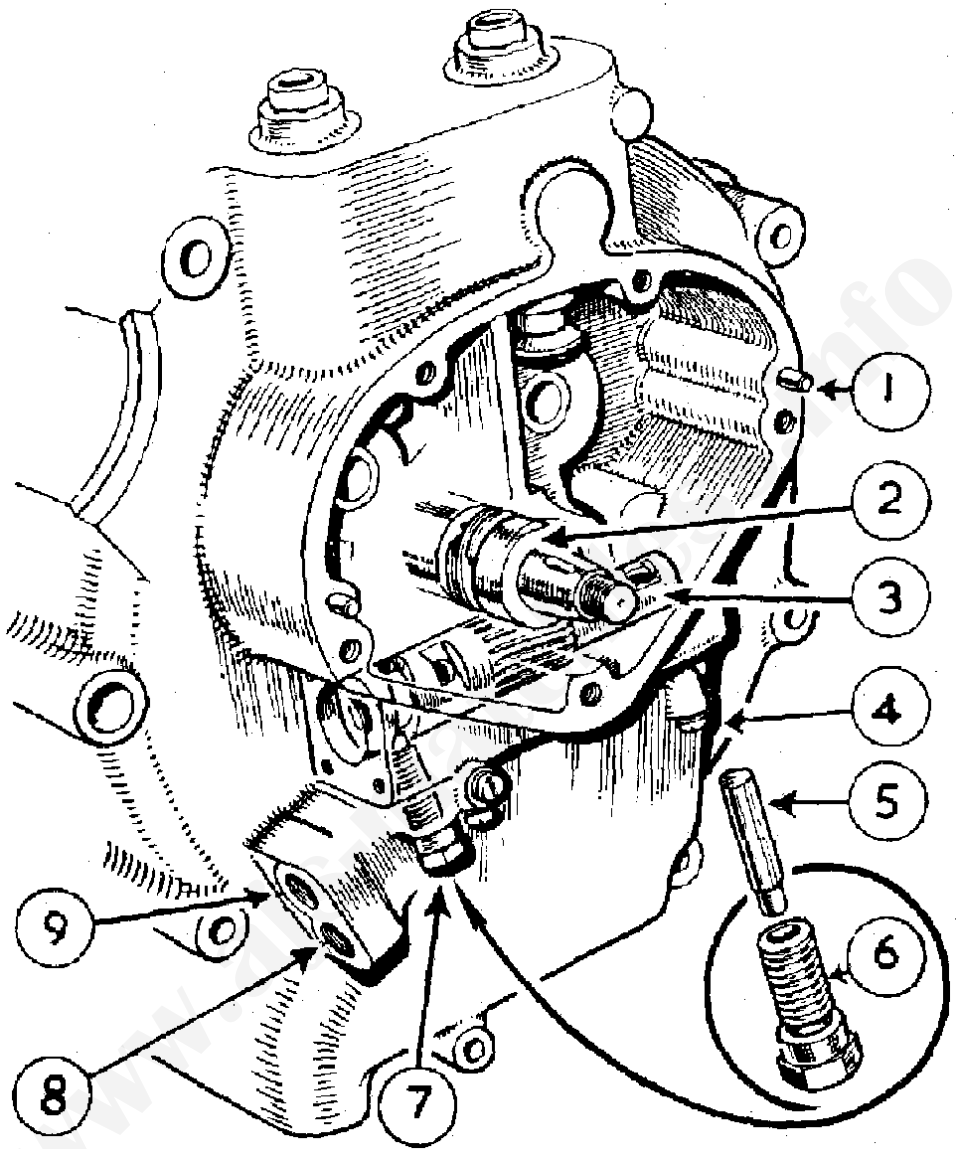

FIG 9
Removing oil pump guide pin and sleeve (6) Fig. 9.
Key to FIG 9
Remove burrs or particles of old gasket from crankcase faces. Take up the oil pump plunger, oil it and insert in crankcase. Clean the interior of screwed body (6) Fig. 9, Oil and insert guide pin (5) as illustrated, the pin should revolve freely. Fit the screwed body and pin with extreme care to ensure the guide pin is located in the annular groove in the pump plunger, using the finger to do so. It may be necessary to revolve the flywheels to locate the pin. The screwed body can be finally tightened with a spanner. *"Failure to observe these important instructions can ruin the pump gear beyond further use".* Now fit the two end caps.
Separating the crankcase. Before attempting to separate the crankcase, the oil pump plunger must be removed by taking off the cap at the rear end of the pump plunger housing, then remove the screwed body (No. 6. Fig. 9), and guide pin (5). Insert a piece of stout wire or wheel spoke in the plunger hole and pull out the pump plunger,